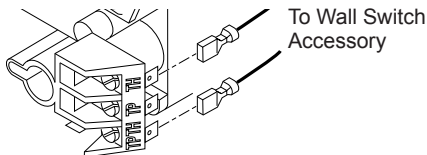

Figure 33 - Connecting Wall Switch to Control Valve
1. Connect one terminal of 25 ft. wire for wall switch to TPTH terminal on valve. Connect remaining wire terminal to TH terminal on valve. Make sure that wire terminals are in positions on unit as pictured in Figure 33. If wires are not connected as shown switch will not work.
4. Connect wires from receiver to TH and TPTH to control valve (see Figure 33).